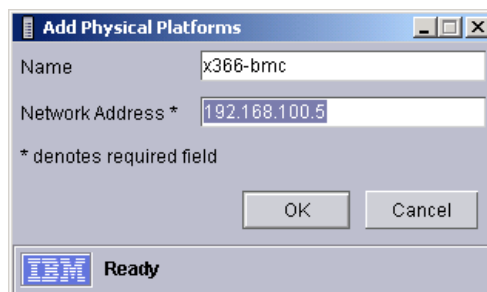

Figure 5-15 Add physical platforms window
3. Enter the appropriate details for the service processor you want to add and select **OK**, as shown in Figure 5-15.